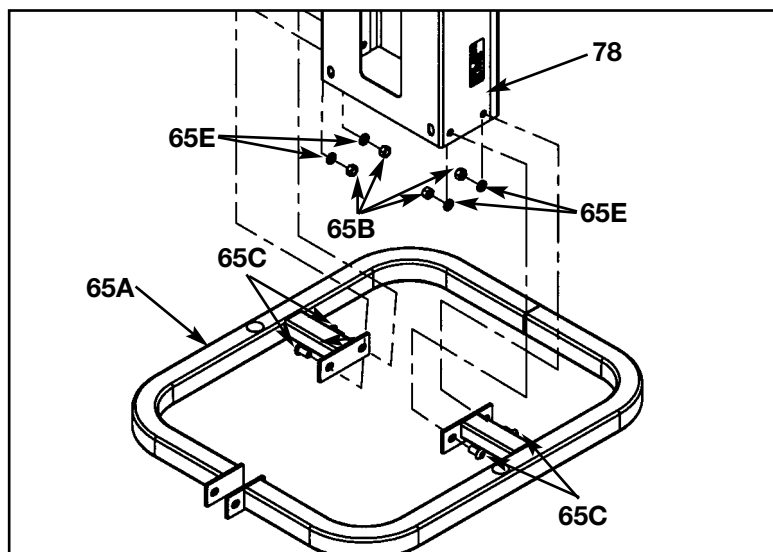

Figure 9
C. With an assistant, carefully place column (#78) into stabilizer (#65A) then attach hardware as shown in Figure 9.